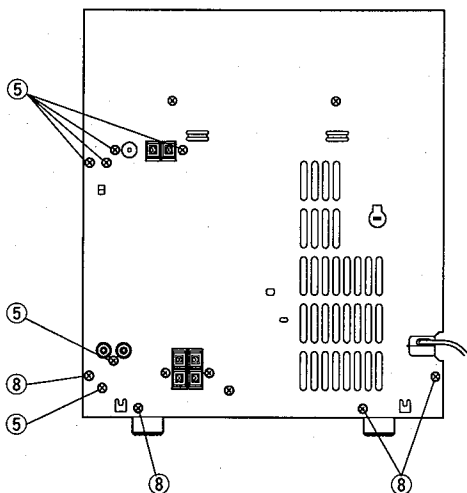
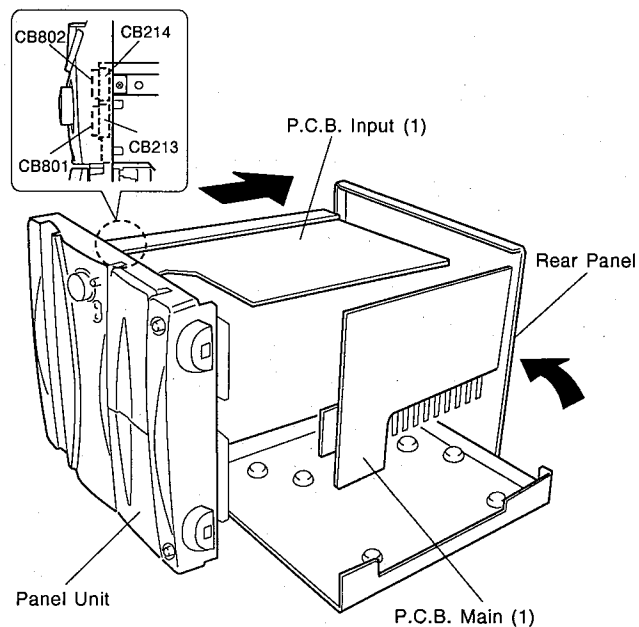

Fig. 4
Fig. 7
- Remove 6 screws (⑤) in Fig. 4.
- Remove 4 screws (⑧) from the Rear Panel in Fig. 4.
- Lift the Rear Panel (with the Main P.C.B. attached) and turn it as shown in Fig. 7, and then install the Panel Unit (with the Input P.C.B./ Tuner P.C.B. attached) to the Rear Panel. (Fix it with 6 screws (⑤) in Fig. 4.)